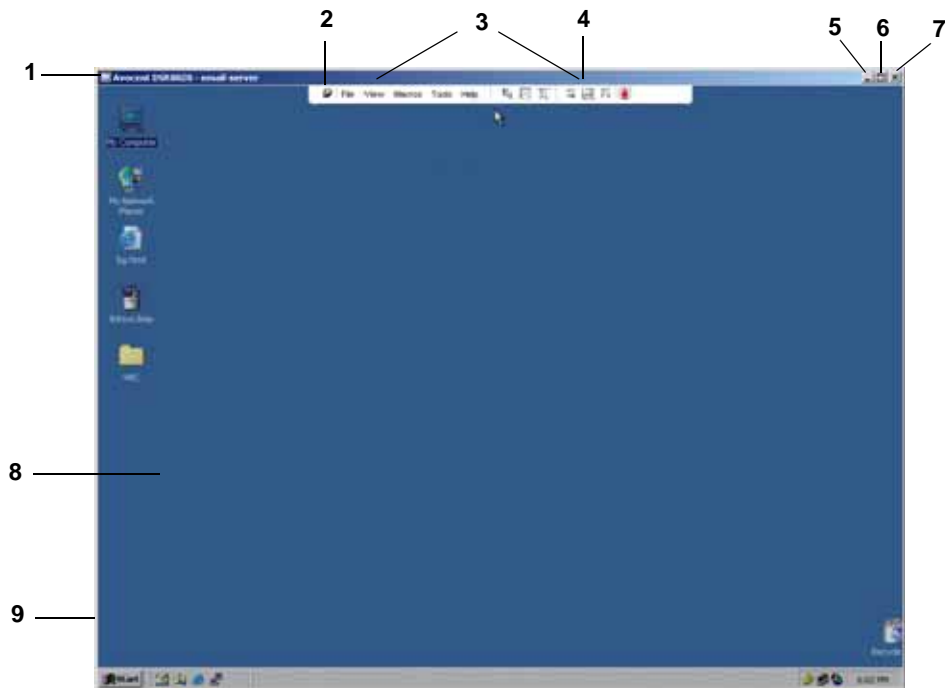

Figure 5.1: Video Viewer Window (Normal Window Mode)
Figure 5.1 shows the Video Viewer window areas. Descriptions follow in Table 5.1.
**Table 5.1: Descriptions for Figure 5.1**